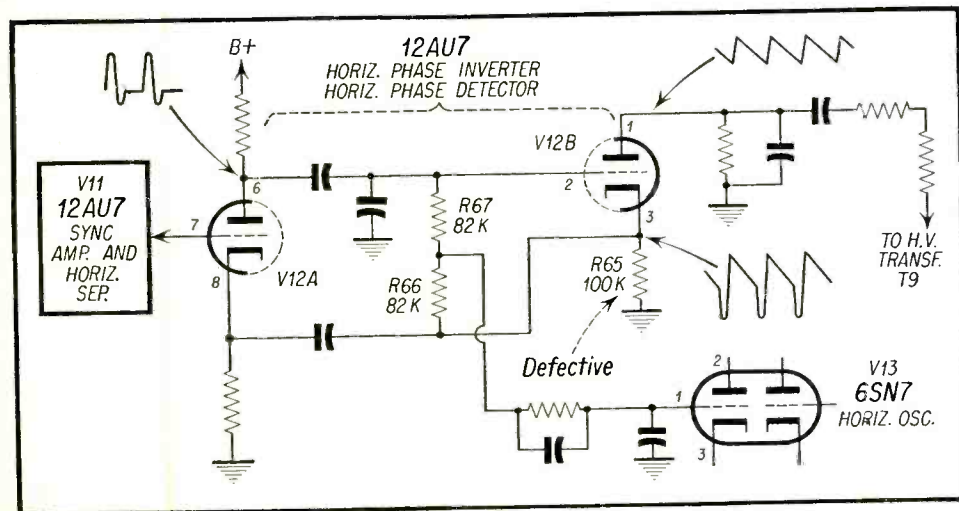

Fig. 1—Partial schematic of horizontal phase detector circuit of Emerson 120169B
Four of the most common approaches to the assembly of a high-fidelity system are illustrated in the block diagrams of Figs. 1 through 4. Fig. 1, for example, represents the most inexpensive method of achieving quality record reproduction at the outset. There is also reasonable provision for the eventual incorporation of additional elements in the system, such as a high quality FM-AM tuner, a tape recorder, etc. Let us use these simple systems to illustrate the types of complaints involving the overall installation. These general faults may be tabulated as follows:
▶ Fig. 1—Basic hi-fi system using separate record changer, amplifier, and speaker.
response alone. Make certain that the tone controls have not been inadvertently rotated by a junior member of the family. Tone controls set fully counterclockwise are a sure means for transforming Hi-Fi back into Lo-Fi. If the speaker system has a separate attenuator pad for the "tweeter" (high frequency speaker) make certain that it has not been accidentally rotated counterclockwise. These precautions, though obvious upon reading, have often been overlooked by high-fidelity technicians and resulted in much wasted time. After these preliminary checks, use your test record and *ac VTVM* to check the response of the system. Be sure to set the record equalization selector to the correct response curve transcribed on your test record. (e.g. lp, RIAA, NARTB.)* If the response from 30 cps to 15,000 cps is reasonably flat, demonstrate that fact to your customer. He would like nothing better than to know, by metered proof, that his system is "flat". The procedure is identical for systems of Figs. 1, 2, 3 or 4. If a serious deficiency shows up in the above check, remove the cartridge plug and substitute your audio oscillator. Again, be certain to insert your R-C network in series if the cartridge is of the magnetic variety. This network now serves a second purpose. In addition to attenuating the output from your oscillator it approximates the response of a recording made to RIAA standards. We will have much more to say about this subject (equalization) in future articles. Suffice it to say at this point that magnetic cartridge preamplifiers are not built to have "flat" response, because recordings are deliberately made without a "flat" response. Preamplifier response is actually the inverse of the recording characteristic so that the sum of the two responses (cartridge and preamplifier) yields a net output which is "flat".